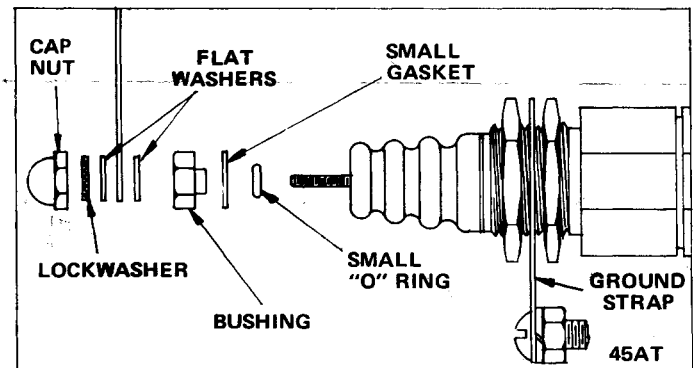

FIGURE 7
STEP 7. Force small "O" ring onto extension and into recess at end of insulator. See Figure 7. Add small gasket to step on bushing, then screw bushing to extension. Tighten bushing against outside insulator. Add flat washer, connecting strap, another flat washer, lockwasher and cap nut to complete assembly. Tighten cap nut.